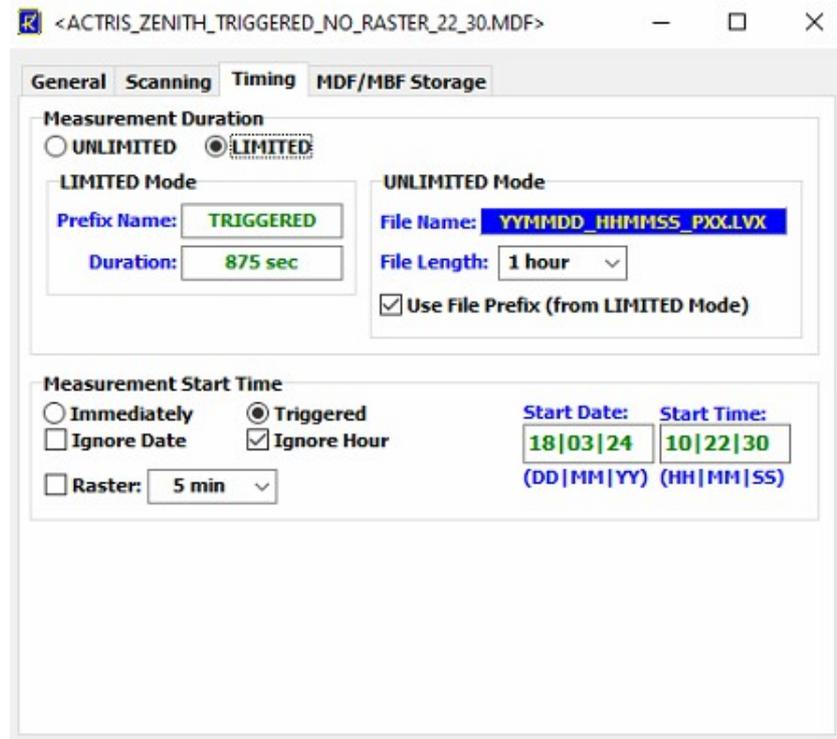

Figure 4: Timing tab on the MDF creation tool
- In the 'Start Time' section, enter the minutes and seconds that you would like the measurement to begin each hour. In figure 4, we would like the measurement to begin at 22 mins and 30 secs past the hour.